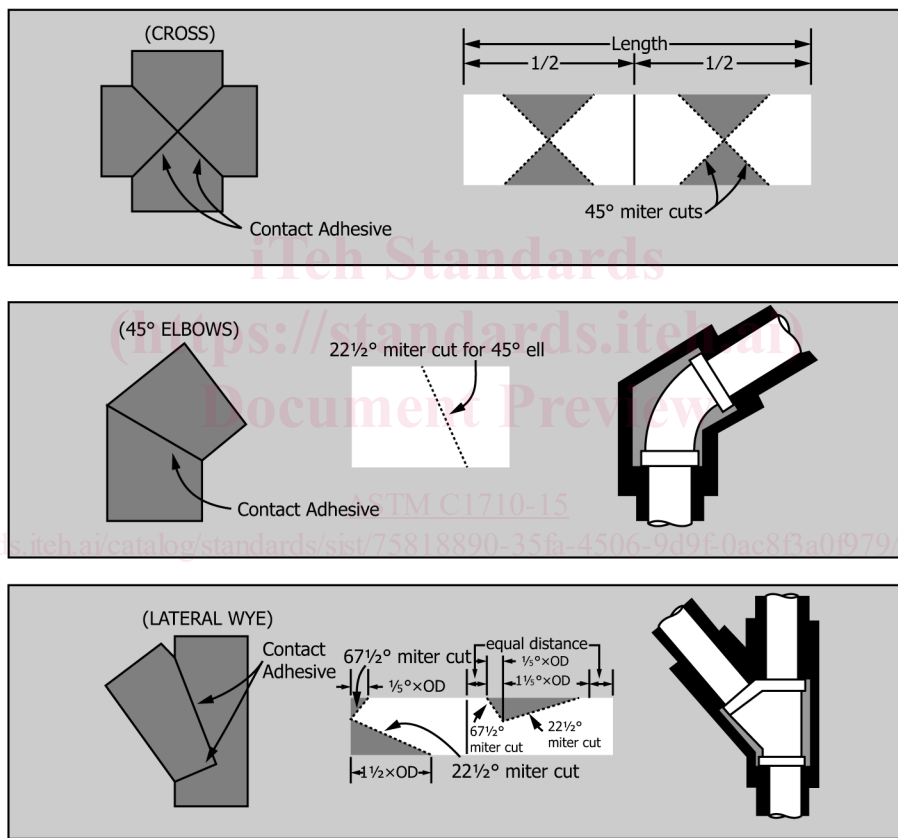

FIG. 5 Fabrication of Elbow Examples of Various Pipe Fittings
10.2 *90° elbows–Fittings:* There are many types of fittings; pipe fittings, screwed fittings etc. See Fig. 5.